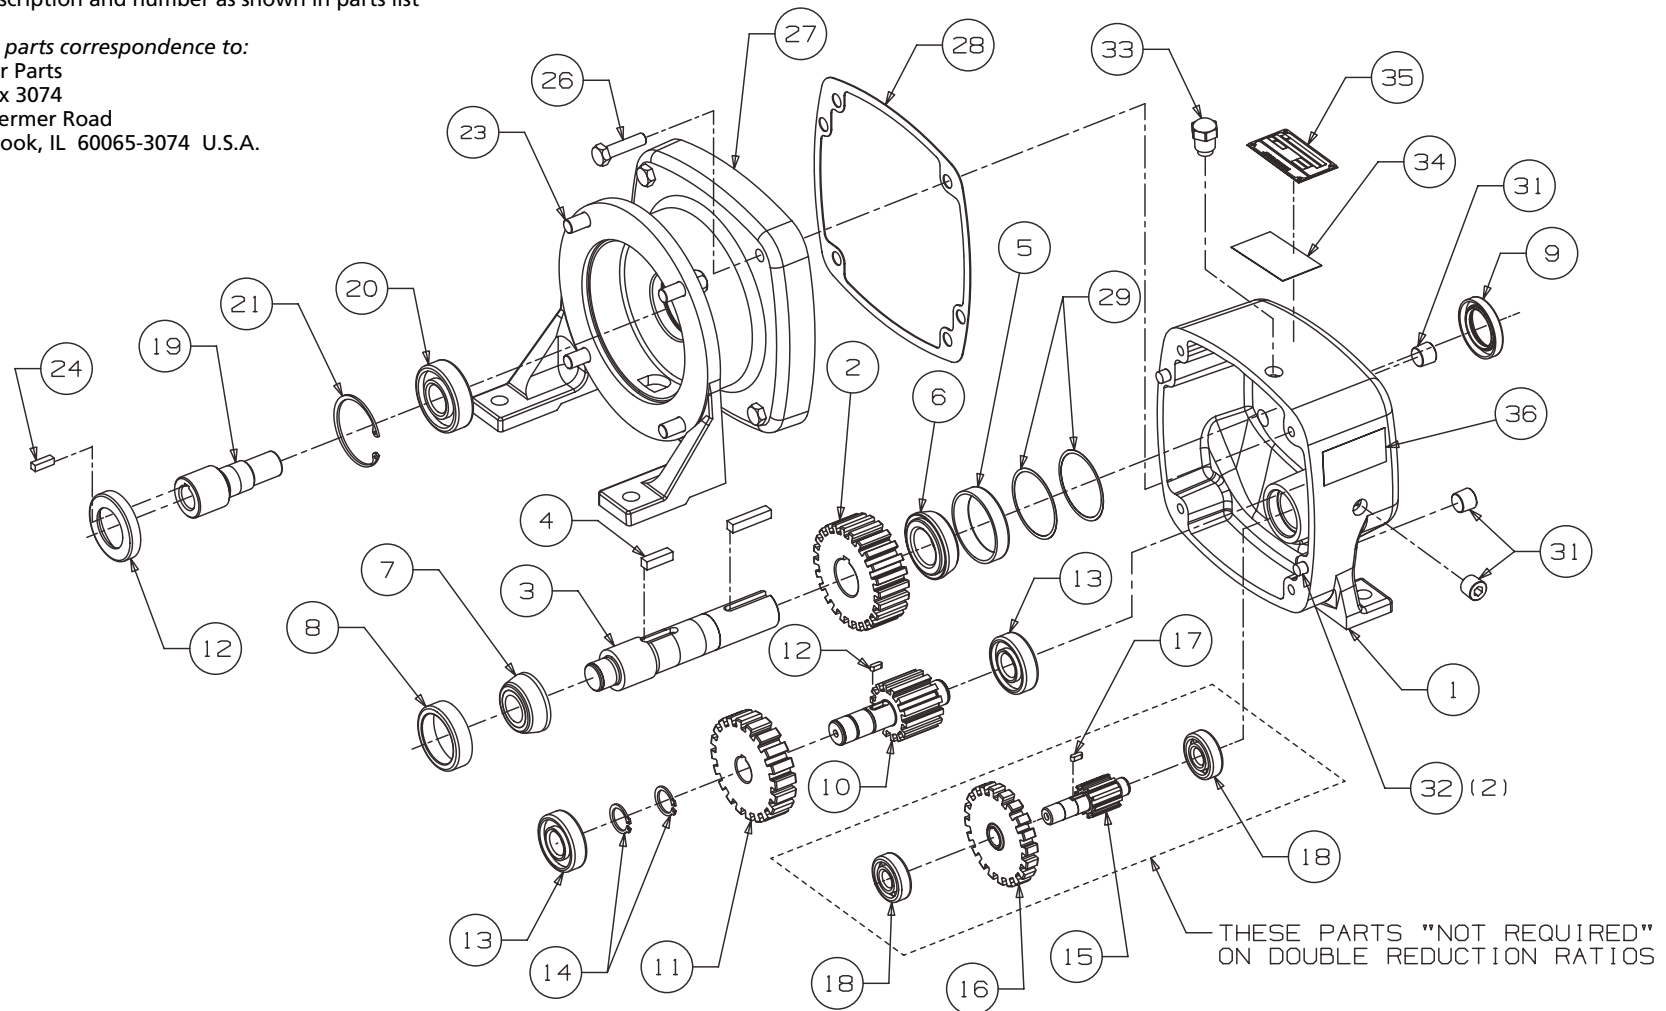

Figure 3 – Repair Parts Illustration
4. Attach motor to speed reducer. (See Figure 3).
- b. Insert short key (B in Figure 3) into
reducer shaft sleeve. Line up keyway in 5/8" diameter motor shaft (A in Figure 3) with keyway in reducer shaft sleeve. Carefully insert motor shaft until C face of motor fits into place against reducer, with four mounting holes in reducer (C in Figure 3) lined up with tapped holes in motor C face.